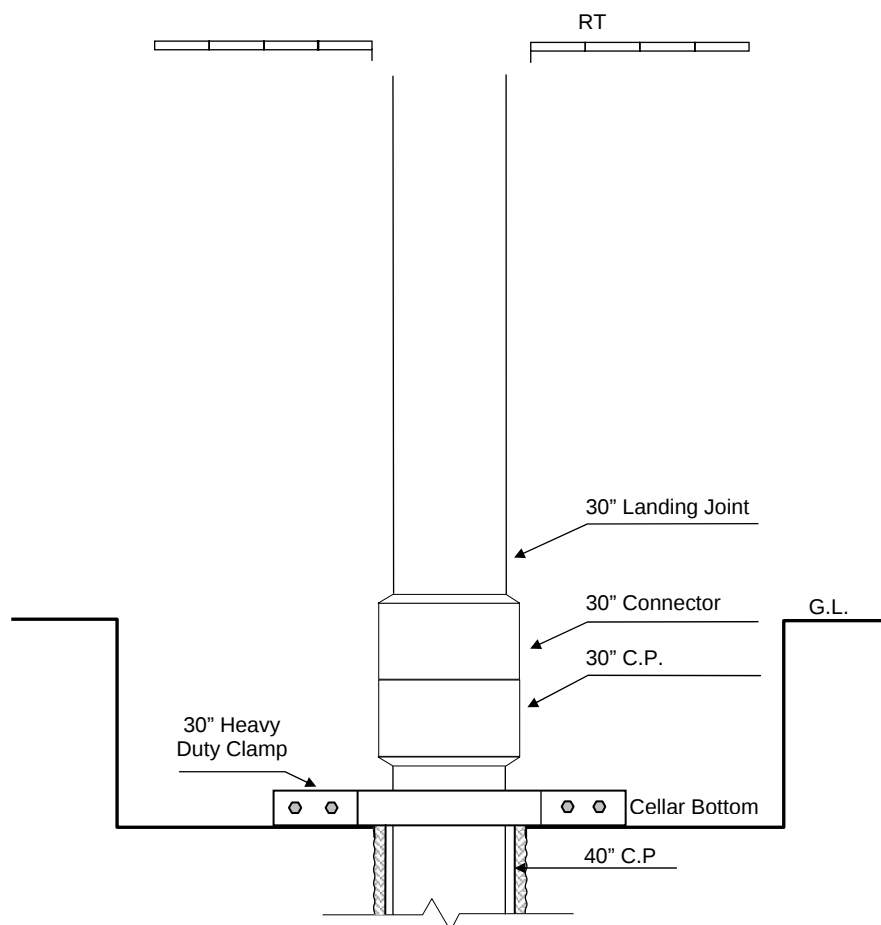

Figure 2-10: 30" Conductor pipe landed on clamp using landing joint
- Make up last conductor pipe joint and land at the required depth on 30" heavy duty clamp using a landing joint, Figure 2-10.